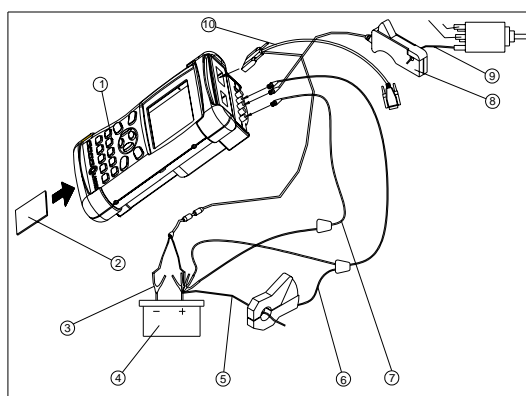

Fig.6-01
- Connect the test cables as shown in Fig.6-01.